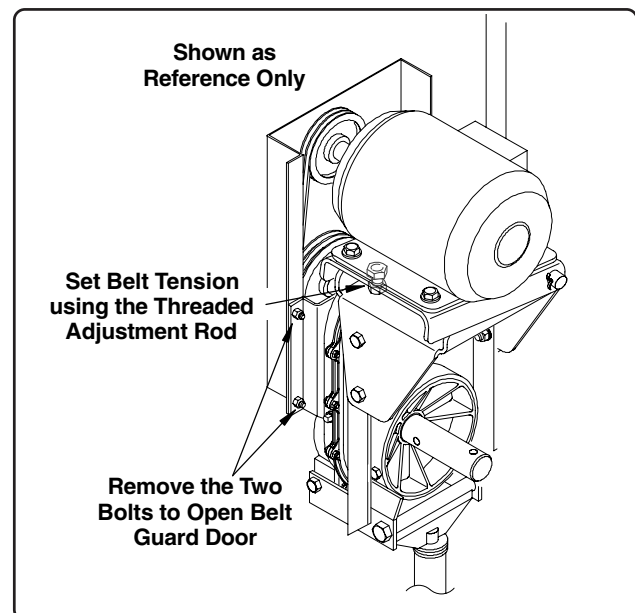

Fig. 6
1. Loosen the 3/4" nut on the bottom of the threaded adjustment rod (the nut is located beneath the mount frame, See Fig. 6). Loosen the nut enough to allow the threaded rod to be adjusted accordingly.